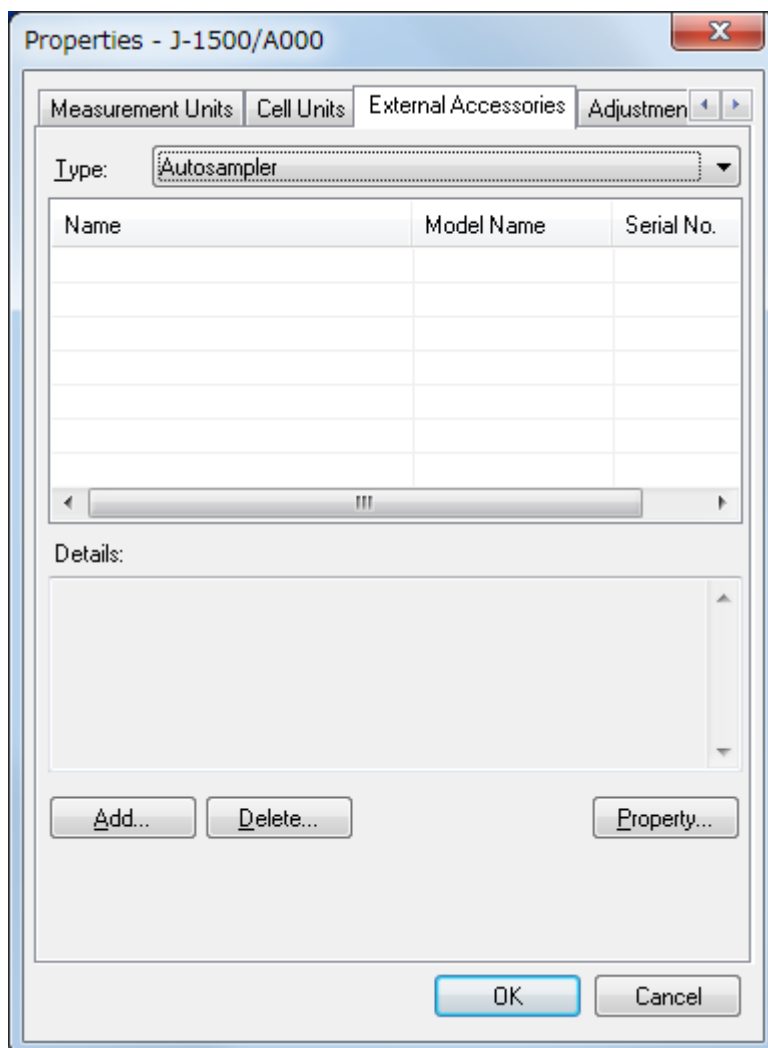

Figure 3.16 [External Accessories] tab in [Properties] dialog box
- (1) Click the [External Accessories] tab in Fig. 3.16. Select the type of external accessory from the [Type] drop-down list. For-1100, the [External Accessories] tab is not displayed.